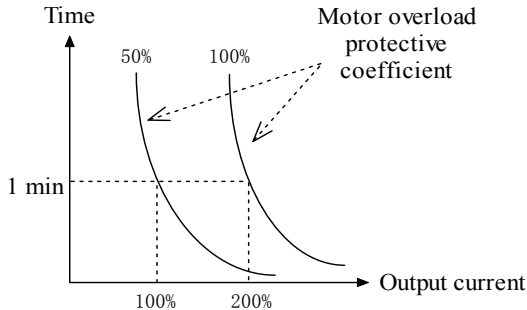

Fig. 5-13-1 Motor overload protection curve
- ◆ In order to apply effective overload protection to different kinds of motors, the max output current of the inverter should be adjusted as shown in Fig. 5-13-1.